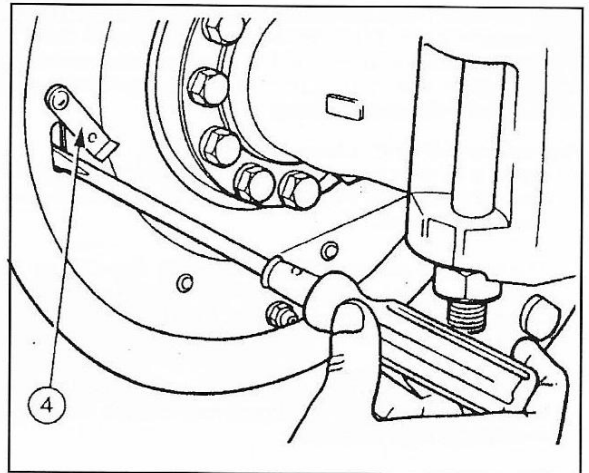
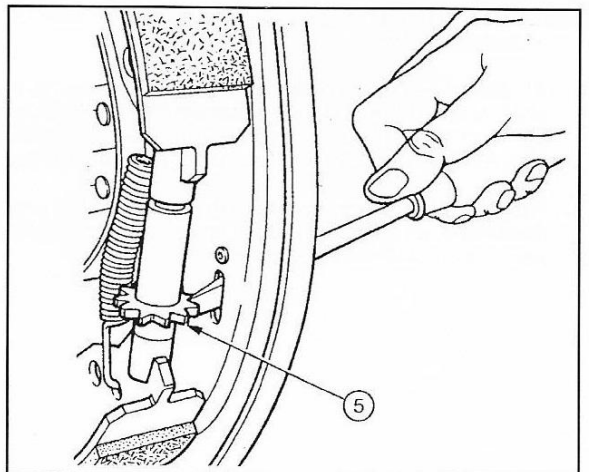

Fig. 90
Fig. 91
4. Insert a screwdriver through the slot in the back plate (4 Fig. 90) and turn the adjuster star-wheel (5 Fig. 91) to expand the shoes in the drum until the wheel is locked.